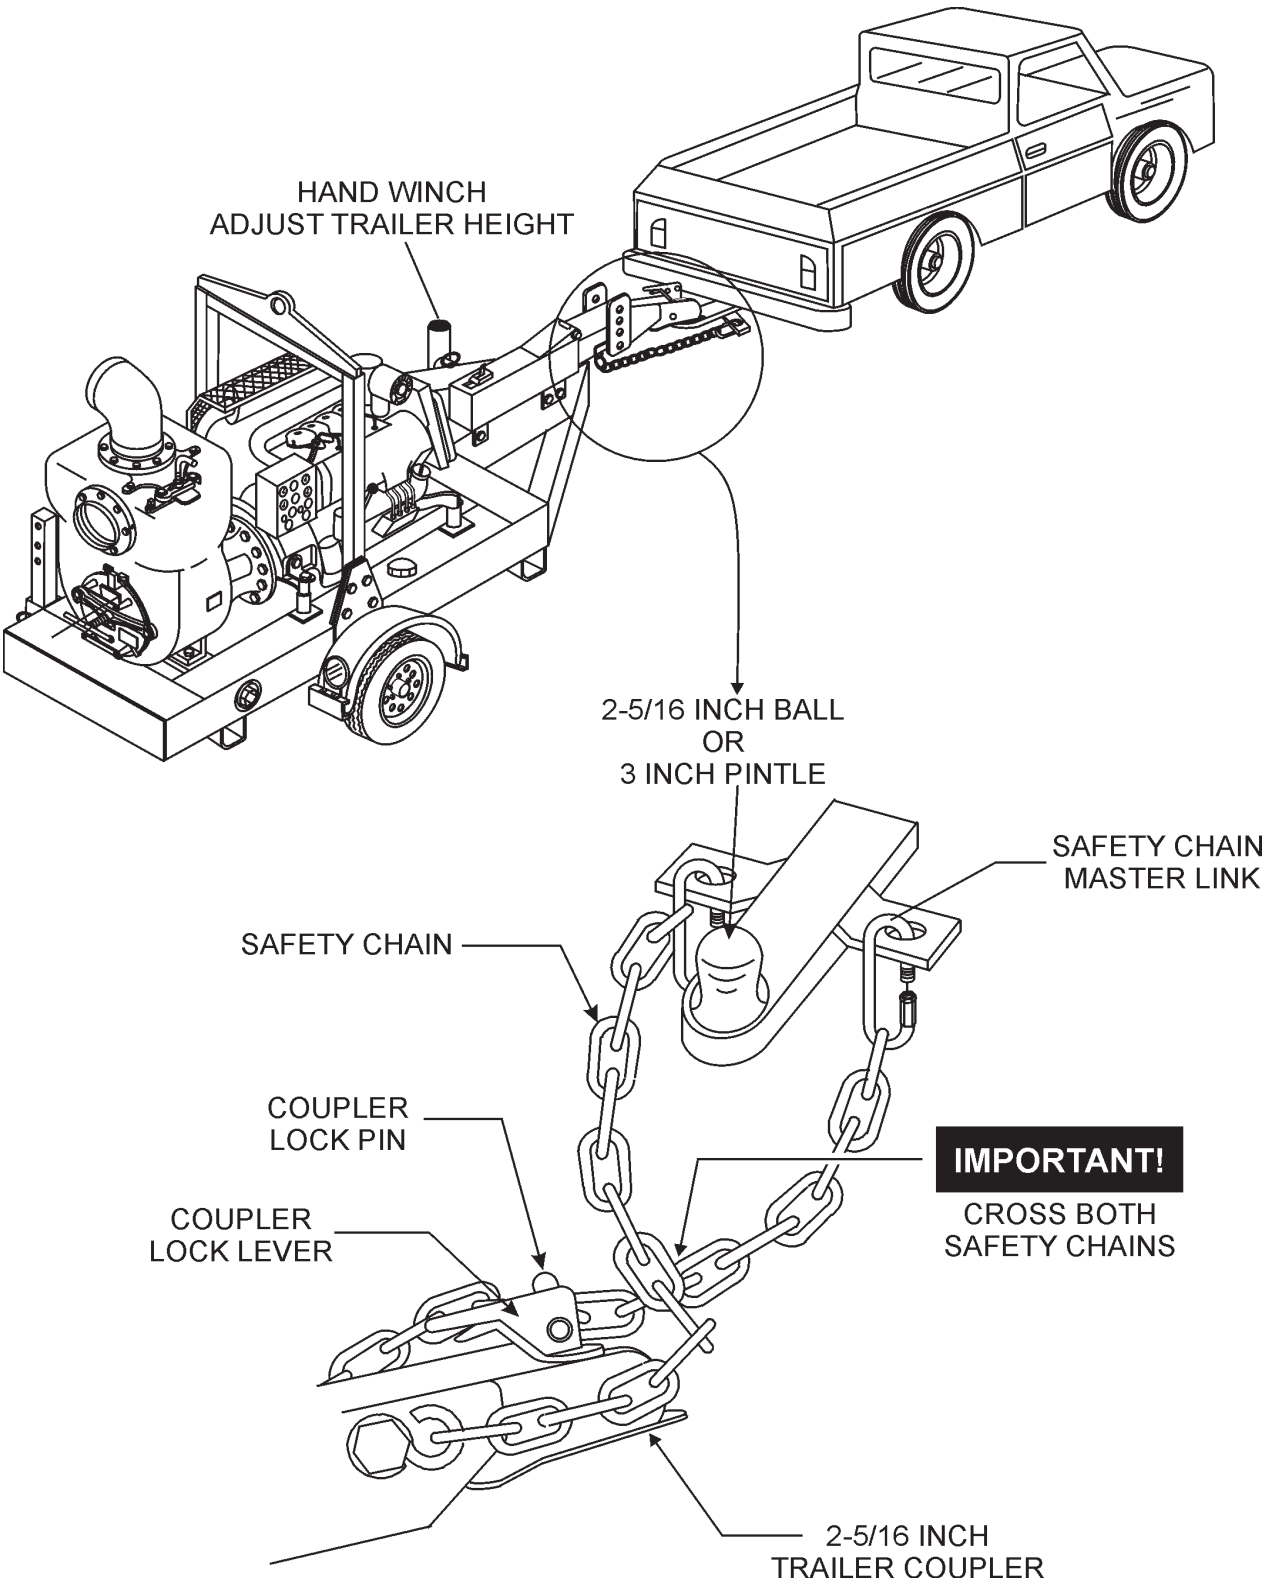

Figure 10. Safety Chains/Trailer Coupler Hook-up
**ALWAYS** make sure that the trailer is in good operating condition. Check the tires for proper inflation and wear. Also check the wheel lug nuts for proper tightness. Reference Figure 10 for proper towing safety guidelines.